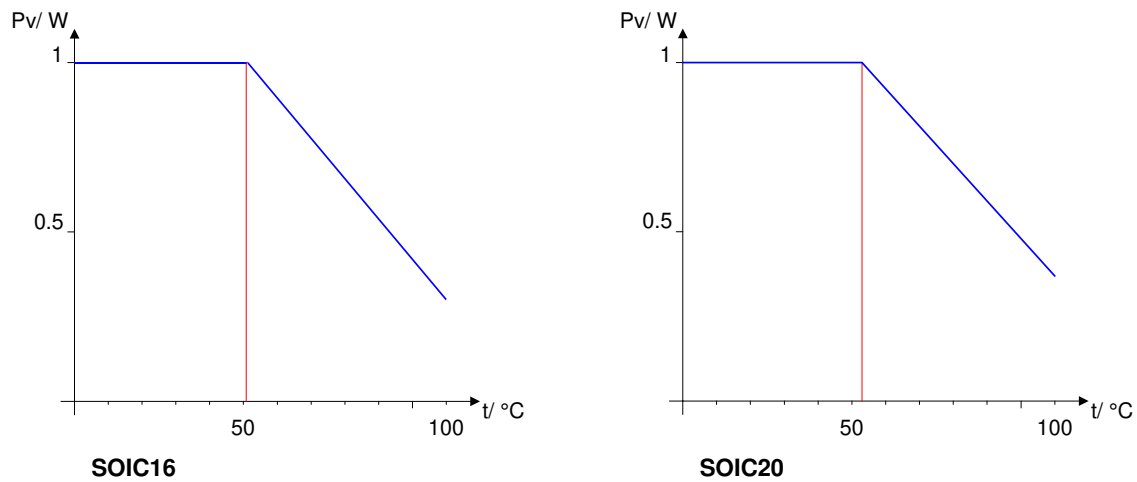

Figure 2 Max. acceptable power dissipation relative to ambient temperature
- 6) Free convection, see Figure 2
- Power dissipation restrictions as per Figure 2 to be observed